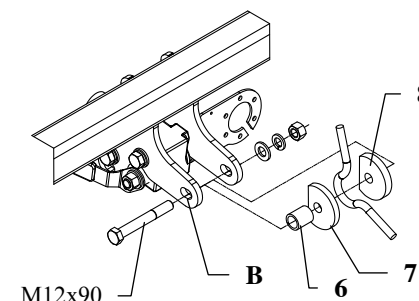

Fig. 3. Rear view
5. Through hole (pos. B) of the towbar fix with original towing eye – use truncate washers (pos. 7 and 8), distance sleeve  $\varnothing 21\text{mm}$ ,  $L=25\text{mm}$  (pos. 6) and bolt M12x90mm (pos. 9) – see figure 3.
6. Fix body of the automat and place tow-ball according to supplied instruction. Note! Remember to place socket plate (pos. 3) as shown on the drawing 1.